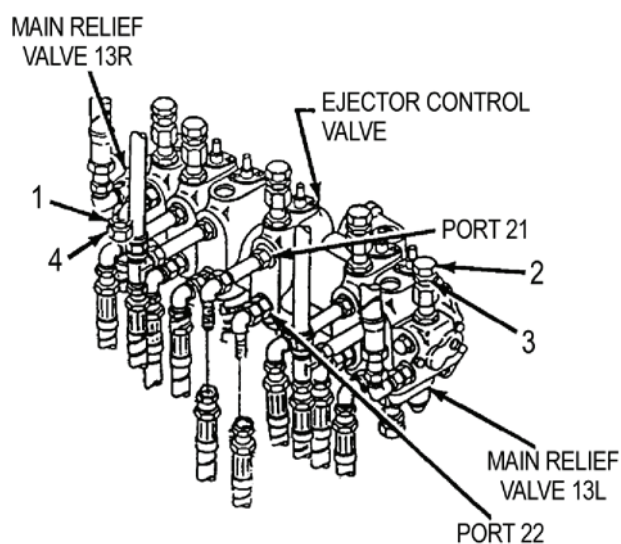
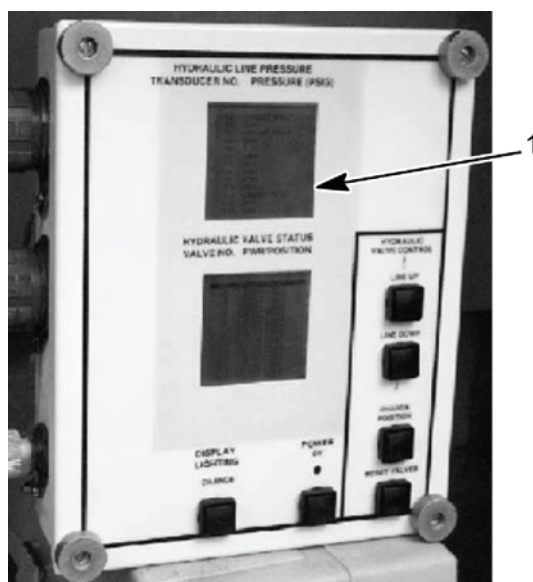

Figure 23. Main Pump Relief Valves
Figure 24. HDC Control Valve
- Loosen jam nut (Figure 23, item 1) on main relief valve 13R.
- Rotate adjusting screw (Figure 23, item 4) on main relief valve 13R clockwise to increase pressure or counterclockwise to decrease pressure. Once indication from transducer T-3 on the HDC display (Figure 23, item 1) hydraulic pressure is within desired limits, tighten jam nut (Figure 24, item 1).